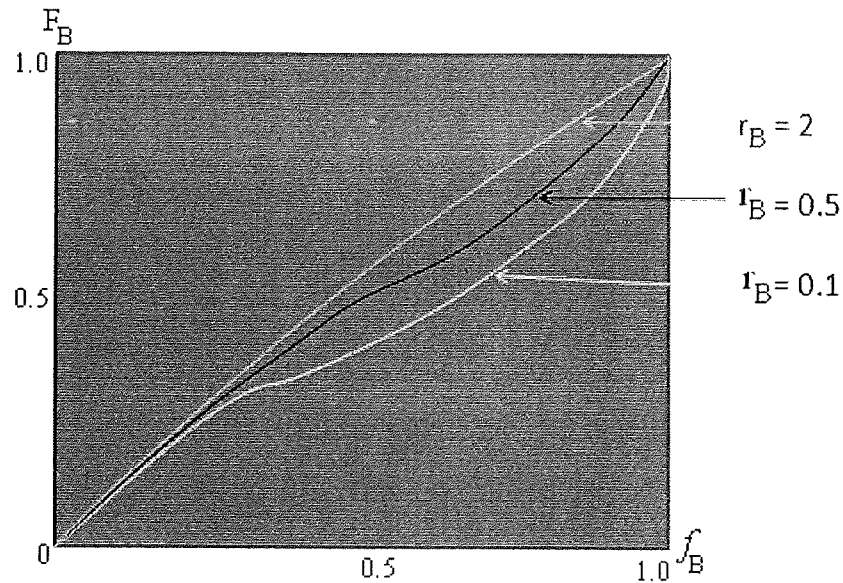

Fig. 1 / Rajah 1
- (c). Consider monomer A having r value of 0.5 and monomer B having r value of 2.0, 0.5 and 0.10 as shown in Fig 1. Based on this figure, predict hence explain what type of copolymer occurred as r value of monomer B changes.